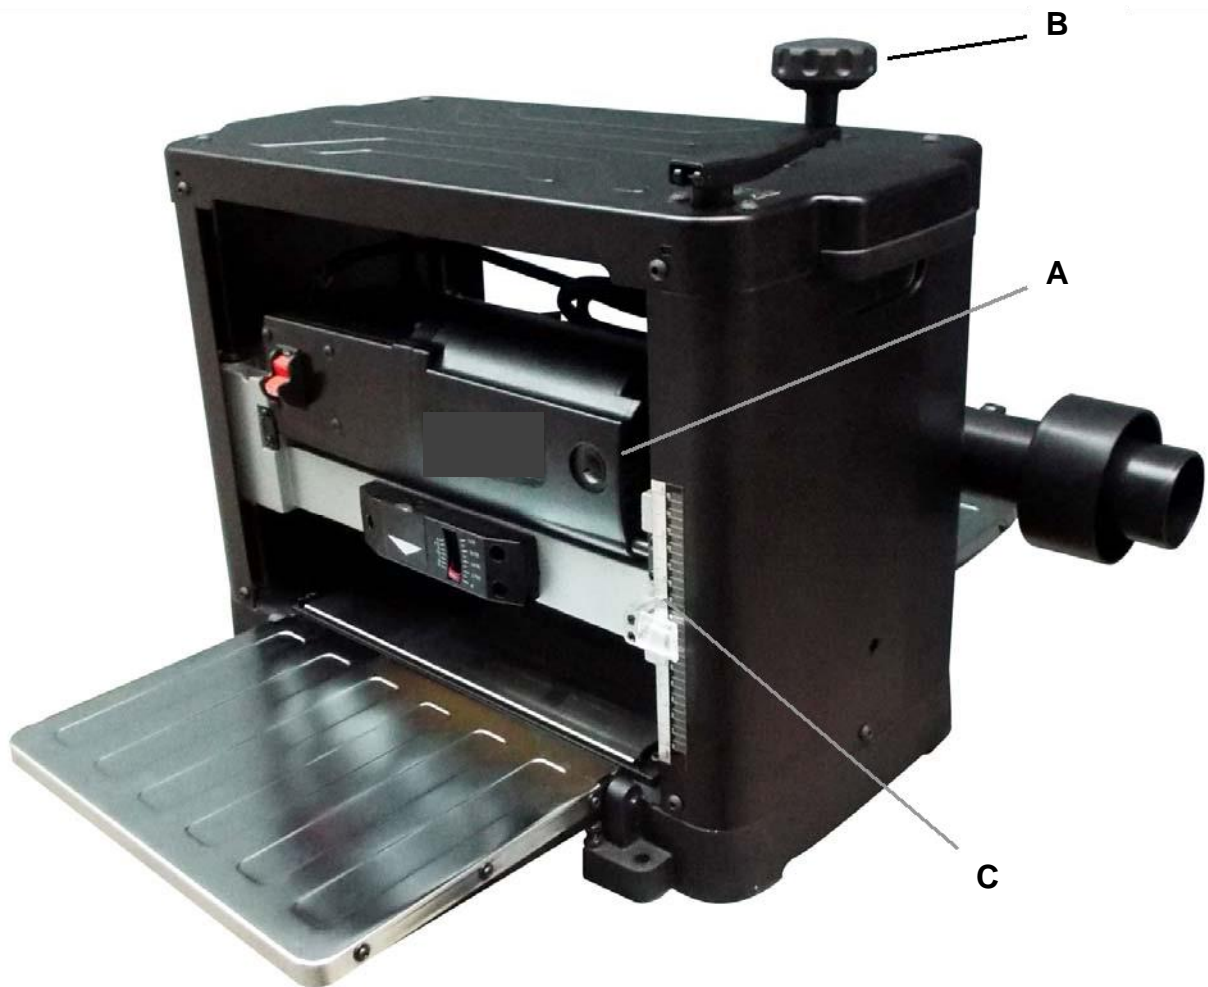

FIG 5
1. To raise the head assembly (A), turn the adjusting handle (B) clockwise. SEE FIG 5.